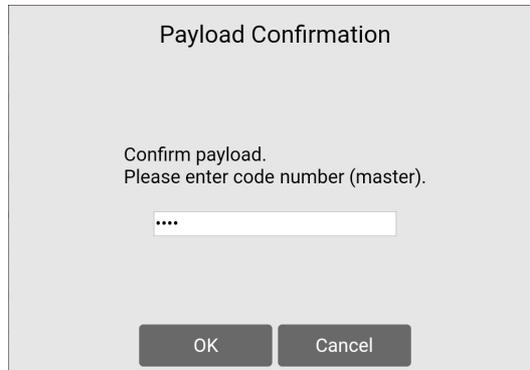

Fig. 3.2(a) Payload Confirmation Popup
- 2 Fig. 3.2(b) is displayed. Confirm the actual payload of the robot hand/tool/workpiece if it is surely equal to payload No X.